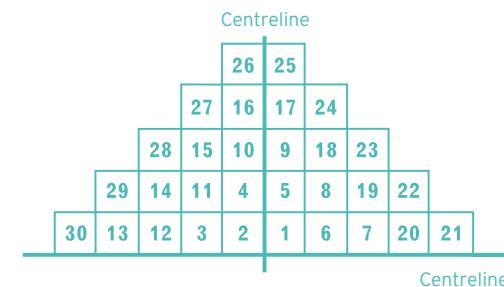

Figure 9 Pyramid layout
- ▶ Lay the first pyramid of tiles from the centrelines, using the sequence shown in Fig 9. Ensure a close bond is maintained at all times.
NOTE Construction of a pyramid should always start at the centre of the baseline, working in the same sequence as shown in Figure 9.